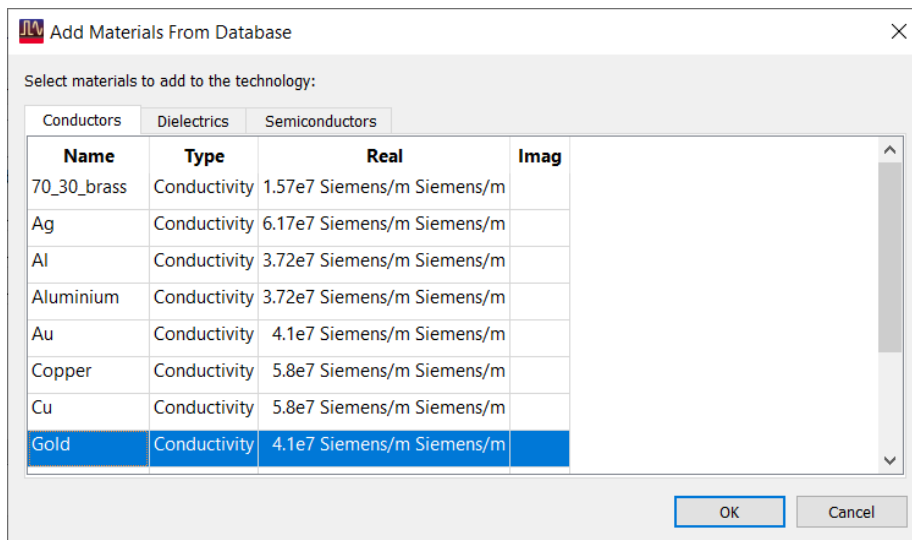

Figure 15. Material database, showing conductors
- In the Conductors tab, go to **Add from Database** and select **Gold** from the list. The database is shown in Figure 15. Click **OK**. After defining the dielectric and conductor properties, click **OK**.